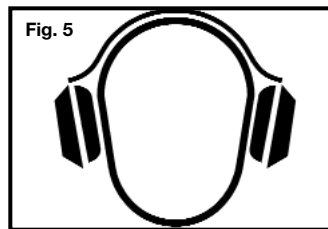

Fig. 5
**7. Wear ear protection** to safe-guard against possible hearing loss. Ear protection equipment must conform to ANSI S3.19 requirements. Fig. 5.